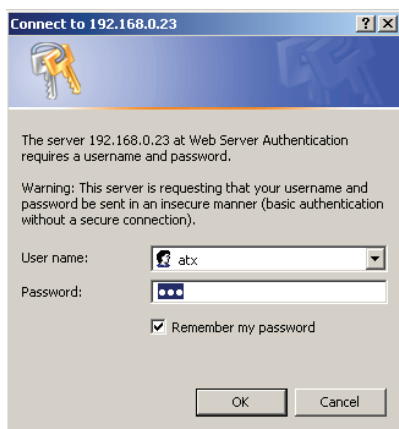

Figure 5-4: Login Dialog
3. The window shown in Figure 5-4 opens or similar depending on browser, requesting the username and password.